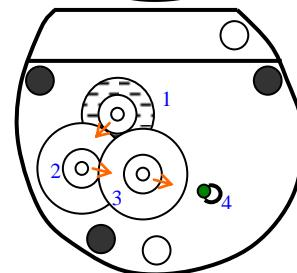

Figure 20: gears 1, 2 and 3 in place.
A 1.4 Slide double gear (3) **flat side down** onto the middle spindle. (Fig. 20.)